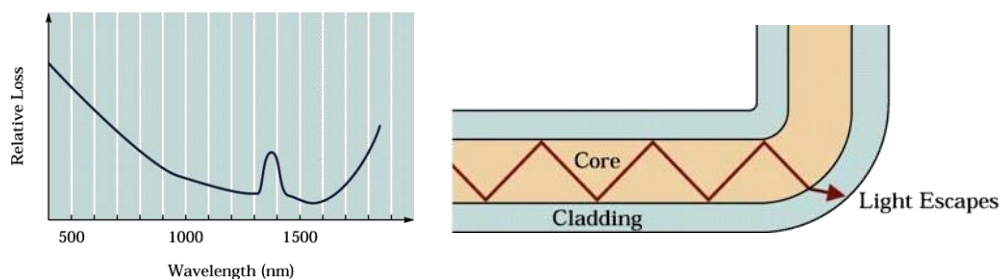

Fig. 7 Materials loss as a function of wavelength and bending loss in an optical fiber
- **Due to impurities:** The material loss is due to the impurities (e.g. Fe, Ni, Co) present in glass used for making fibers. The Fig. 7 shows attenuation due to various molecules inside glass as a function of wavelength. It can be noted from the Fig. 7 that the material loss due to impurities reduces substantially beyond about 1200 nm wavelength.